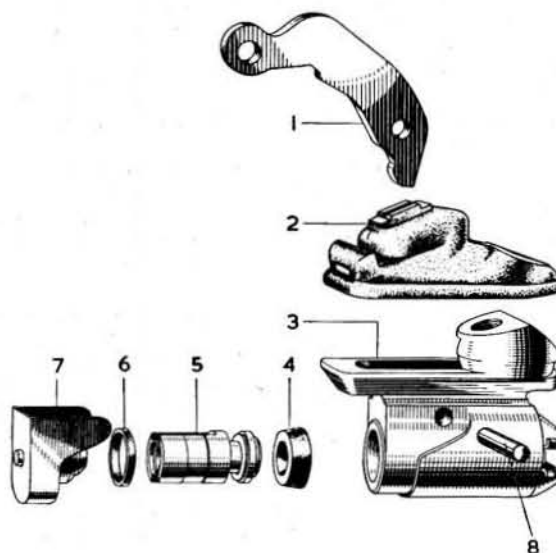

FIG.9.12. EXPLODED VIEW OF REAR DRUM BRAKE WHEEL CYLINDER
- 10 Remove the wheel cylinder outer piston (Fig. 9.12), and now slide the cylinder casting forward and at the same time pivot it about its forward end and withdraw the rear end from the slot in the backplate. Rearward movement of the cylinder will now bring its forward end clear of the backplate.
- 2 Refer to Fig. 9.12 which gives an exploded view of the cylinder.
- 4 Withdraw the outer piston (7). Tap out the lever axis pin and remove the lever (1).